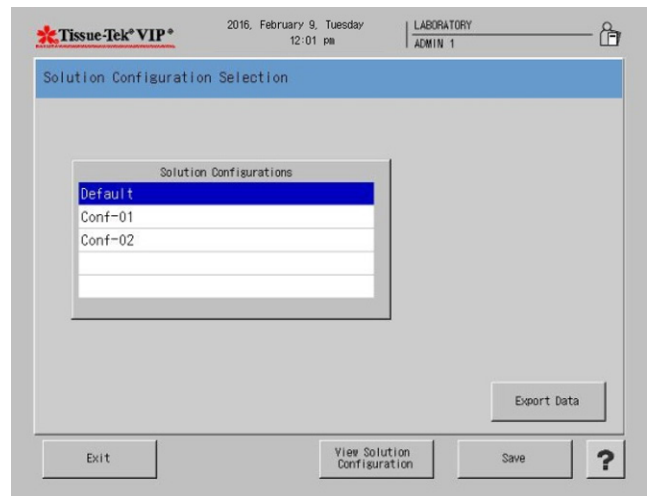

Figure 3-JJJ
- The Solution Configuration Selection screen displays (Figure 3-JJJ).